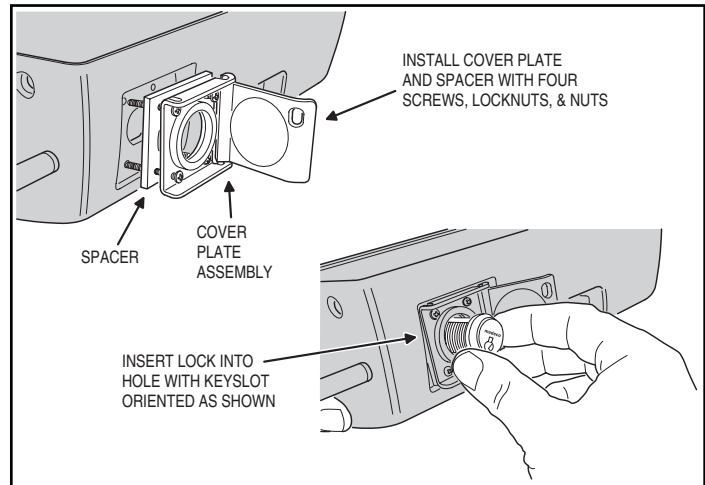

Figure 14. Installing the Keyswitch
3. Hold the lock cover and plastic spacer in place on the RE-1 case. Secure the assembly with four screws, lock washers, and nuts. Use bolt cutters to trim the two screws closest to the case edge so they will clear the circuit board. Slide the keyswitch into the hole, oriented as shown. Secure the keyswitch with the large switch nut (see Figure 14)